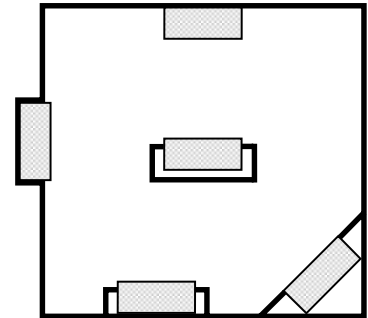

Figure 1
- Minimize modifications to existing construction. Refer to Figure 1 for location suggestions.